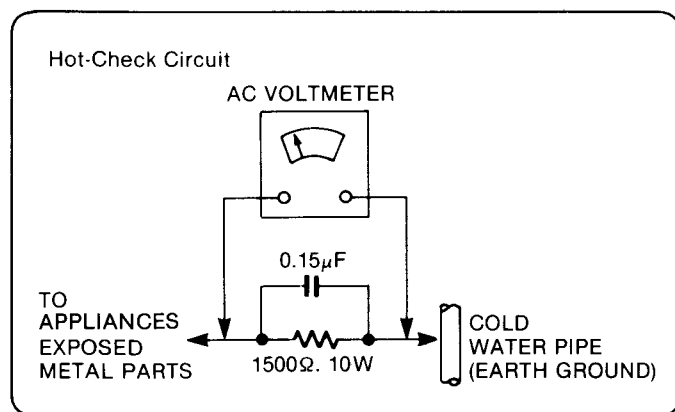

Figure 1
LEAKAGE CURRENT HOT CHECK (See figure 1.)
2. Connect a $1.5\text{k}\Omega$, 10 watts resistor, in parallel with a $0.15\mu\text{F}$ capacitor, between each exposed metallic part on the set and a good earth ground such as a water pipe, as shown in figure 1.